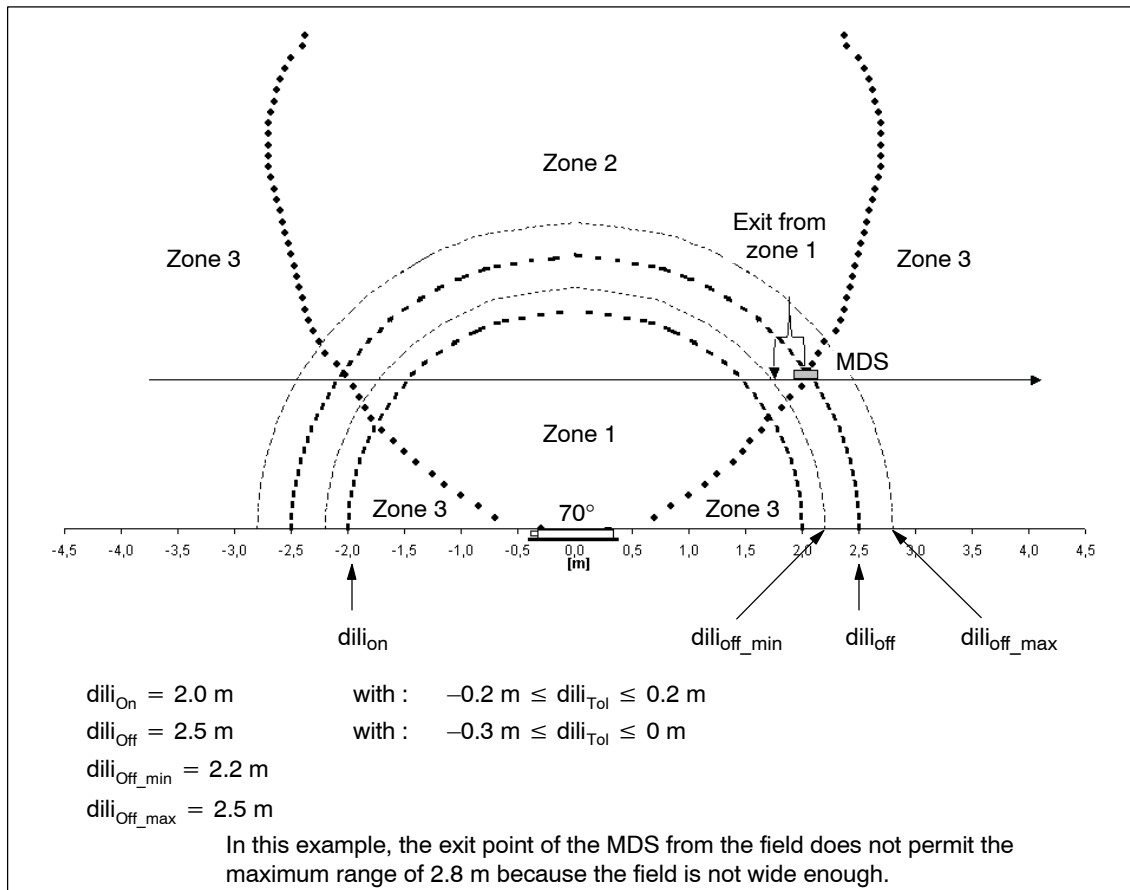

Figure 3-7 Example of case b) when the range limit  $dili = 2.0 \text{ m}$
- b) The MDS exits the SLG's field within the tolerance range of the range limit. Communication is terminated before the range limit is reached. This means that when the MDS exits the SLG's field the range limit overlaps the tolerance range of the field (see Figures 3-7 and 3-9).